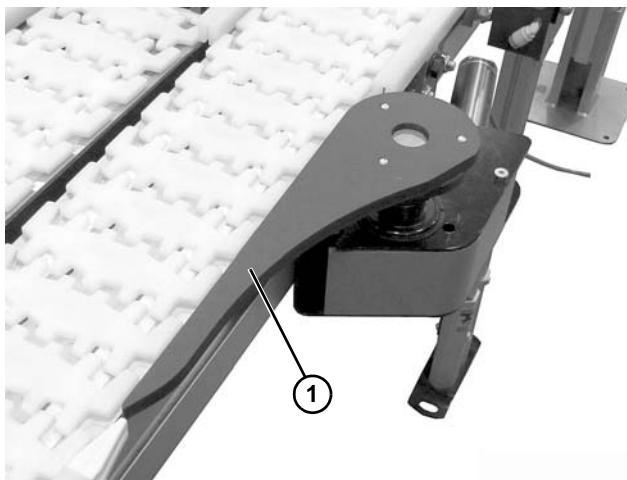

Figure 37
- f. Move divert (**Figure 37, item 1**) to desired minimum position and tighten fasteners.